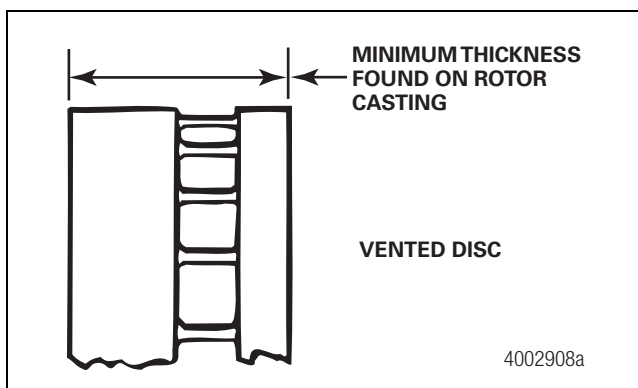

Figure 7.22
- Measure the thickness of the disc or rotor when you reline the brakes. The disc or rotor must be at least the minimum discard thickness found on the rotor casting. Figure 7.22. If the thickness of a disc or rotor is less than the specification, replace the disc or rotor.